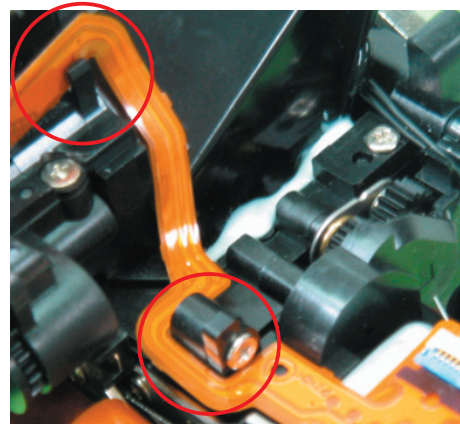

Fig. 110
(3)Handle the FPC as shown in Fig. 110 and make sure that it is positioned flat and insert to the end.